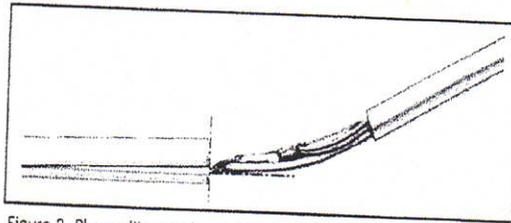
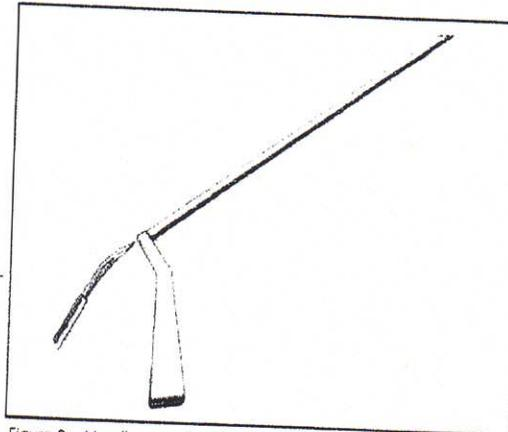

Figure 3. Blue split cannula positioned 90° to the curve of the delivery needle
Figure 3a. Needle curve facing down
**Caution:** The opening of the split cannula must be at 90° to the curved ULTRA FAST-FIX® needle to prevent the needle from slipping out as it is introduced into the knee (Figure 3). If using the slotted cannula, make sure the curve of the needle faces down (Figure 3a).